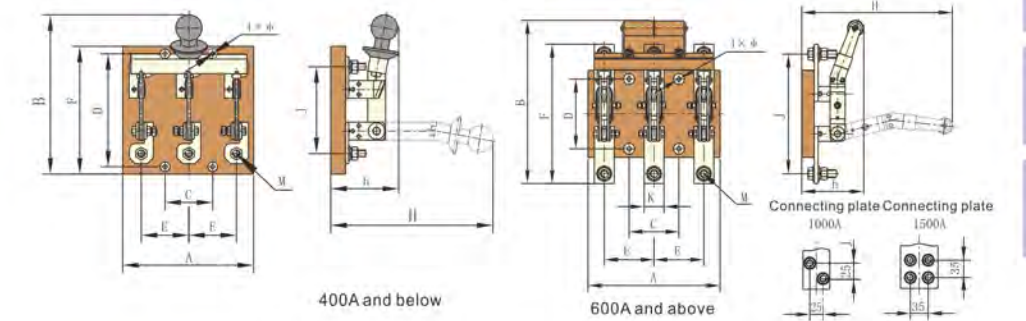

Figure 1
5.1 HD11 front-panel wiring (see Figure 1 and Table 2).